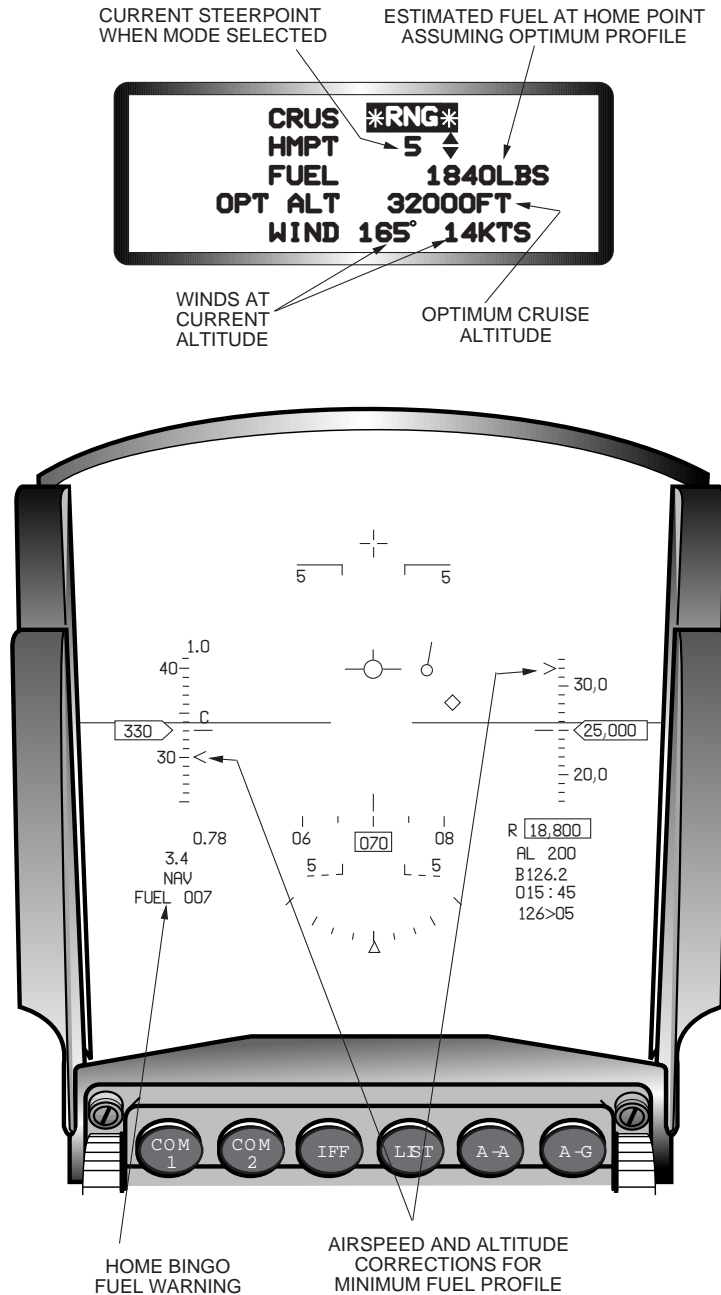

Figure 2-18 Cruise Home Option
**Home.** The HOME option provides the pilot with HUD airspeed and altitude cueing to fly a profile to a home point using a minimum amount of fuel (Figure 2-18). The flight path consists of a minimum fuel climb at military power or an idle descent to the optimum altitude, as required, a cruise climb segment where the altitude increases as fuel is burned off, and an idle power descent to a point 5000 feet over the home steerpoint. Prior to mode select, the pilot may continue to navigate to the currently selected steerpoint and select different home points on the HOME DED page to view estimated fuel at different landing points. When mode selected, the current steerpoint becomes the current selected steerpoint and the airspeed and altitude carets appear in the HUD to provide cueing to fly the flight path profile.